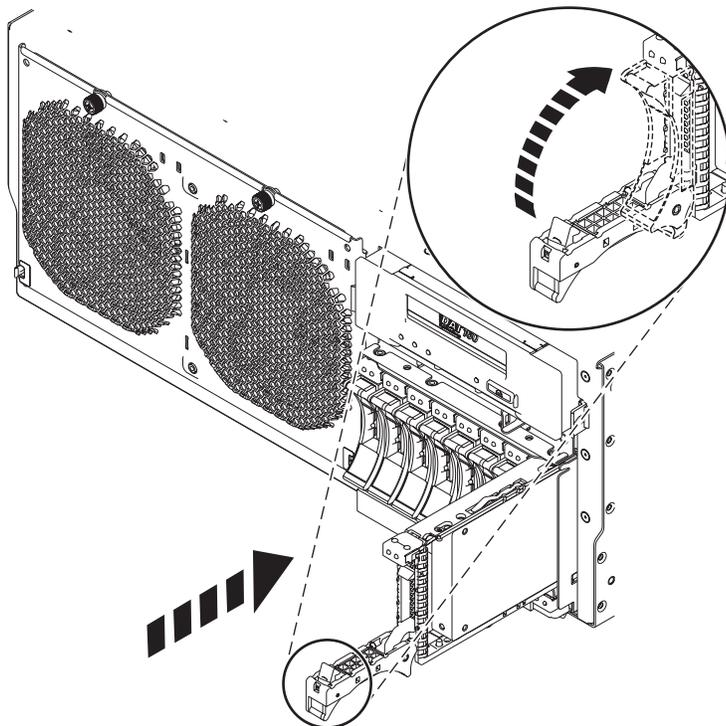

Figure 27. Replacing a disk drive in the system
7. When the identify LED turns on solid, slide the disk drive or solid-state drive all the way into the system or an expansion unit, and push the drive handle **(A)** in until it locks, as shown in Figure 27.